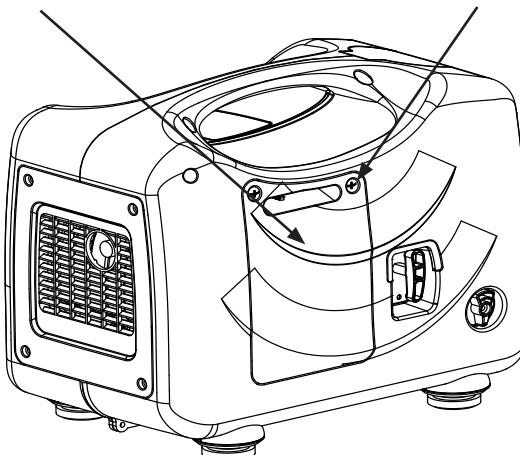
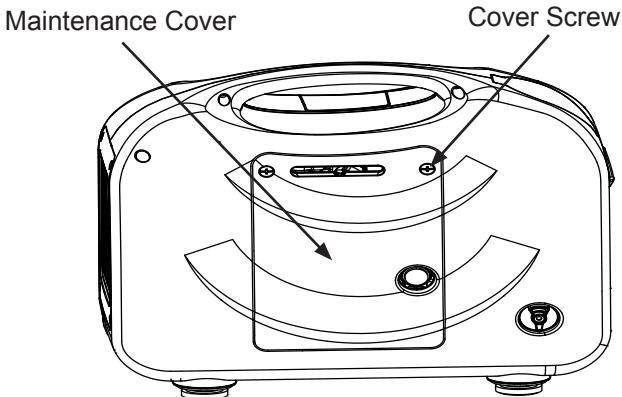

Fig. 3.0
Fig. 3.1
1. Loosen the cover screws and remove the maintenance cover (Refer to Fig. 3.0 for HY1000Si and Fig. 3.1 for HY2000Si)